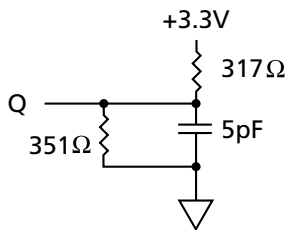
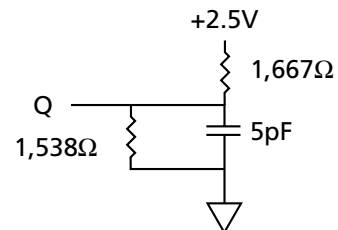

Figure 2
Figure 4
- The load used for V_{OH}, V_{OL} testing is shown in Figure 4 for 2.5V I/O. AC load current is higher than the stated DC values. AC I/O curves are available upon request.
3. This parameter is measured with the output loading shown in Figure 2 for 3.3V I/O and Figure 4 for 2.5V I/O.